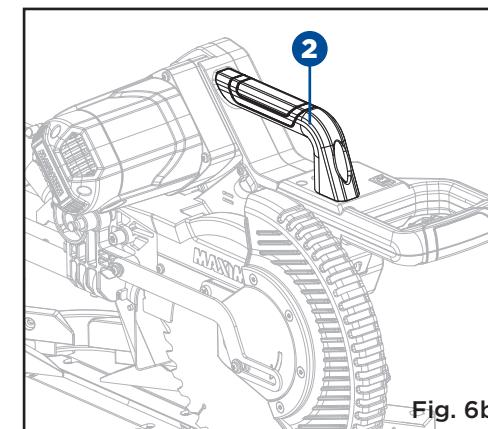

Fig. 6b
- Firmly grasp the switch handle and push the cutting head down to its lowest position. Push the head lock pin (1) into the locking hole and check that the head lock knob is locked in place by turning the knob clockwise.
NOTE: To avoid damage, never carry the mitre saw by the blade guard, power cord, mitre lock handle or saw head. ALWAYS use the designated carrying handle (2) located on the top of the saw body (Fig. 6b).